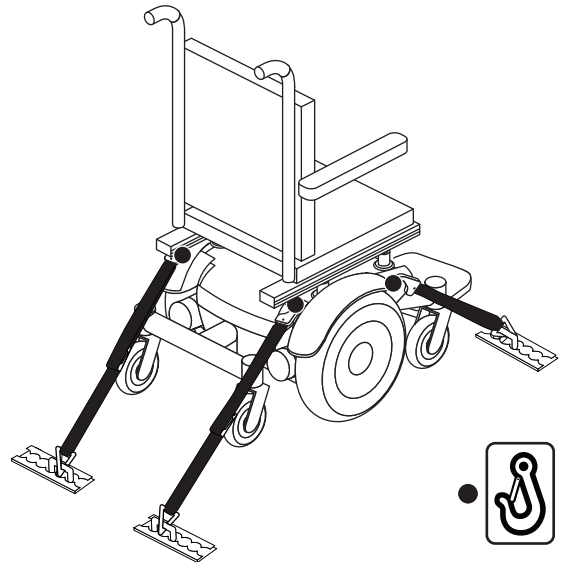

Figure 13. Unoccupied Transit System Securement Points
- Position the anchor point for the rear tie-down straps directly behind the rear securement points on the power chair. The front tie-down straps should be anchored to floor points that are spaced wider than the power chair to provide increased stability. **See figure 13.**